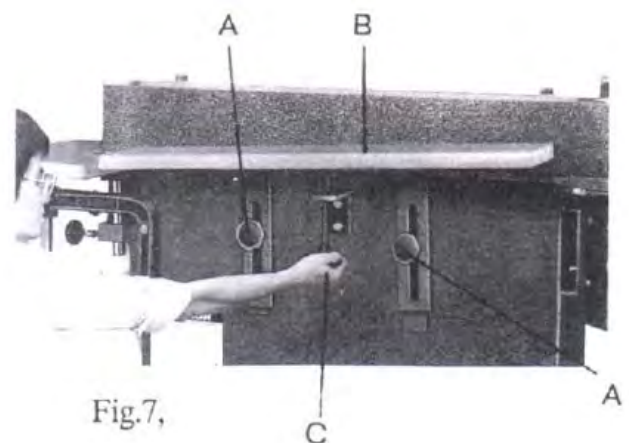

Fig.7,
2. Loosen the two fixed knobs (A), Fig. 7, raise the front worktable (B) by rotating the adjustment knob (C) and incline the degree you wish. Then tighten the two fixed knobs (A).
6. Tighten the two fixed screws (A), Fig. 7, on the steel platen